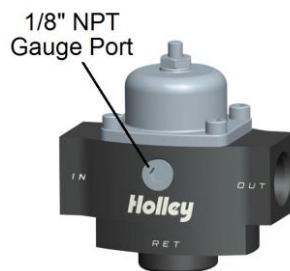

Figure 1
- The above return style regulators have one discharge (out) port, one inlet port, one return port and one gauge port. See **Figure 1**. (See chart above for fitting sizes).
- Connect the fuel line from the "out" side of the pump to the "in" side of the regulator. (Figure 1) All fuel line connections must be leakproof.